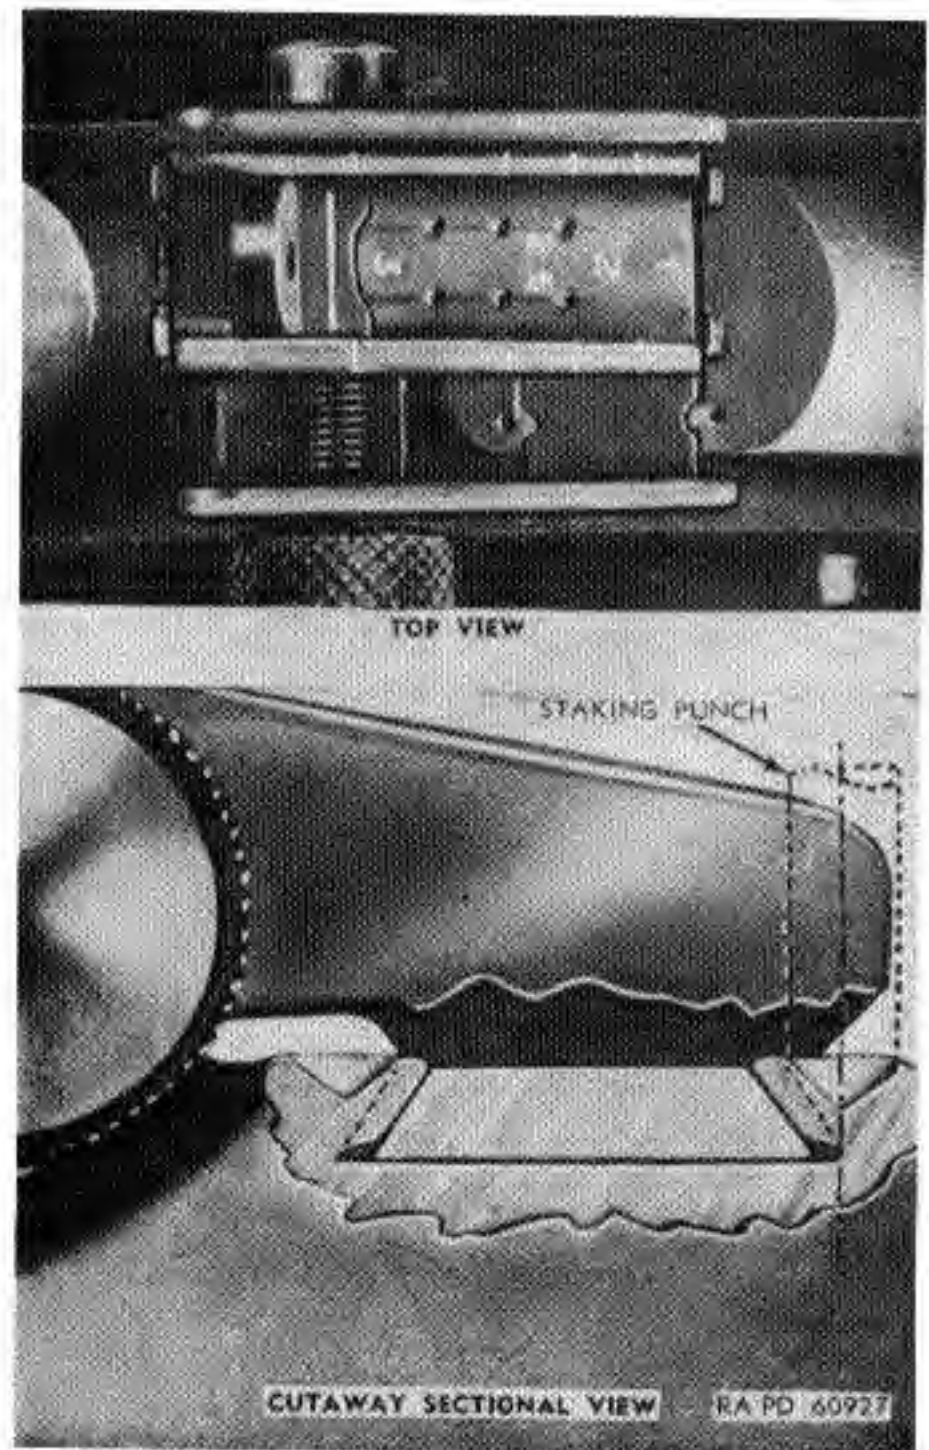

Figure 73. Rear sight showing staking.
- (1) If reading is below 18 inch-pounds indent the area in front of the dovetail slot. This can first be done by using punch 7312234 (Fig. 73) and rapping punch with a hammer. Undertake this operation with extreme caution. A blow only hard enough to cause a flow of metal into the dovetail slot is necessary.
*Note.* The staking operation is extremely critical and success of this operation will depend largely upon the skill and judgment of the operation (Fig. 73). Bear in mind that the sharp upper edges of the dovetail slot on the receiver are easily chipped or cracked, and such damage will ultimately result in an unserviceable weapon. Many problems will arise which will have to be solved by the individual mechanic; a few of these problems and their remedies are listed in (1) and (2) below.
- (1) Indents on sight base dovetail may be horizontally misaligned with references to holes in sight base. If the indents are slightly out of horizontal alignment they may be corrected by enlarging the indents very slightly with a small three-square file.